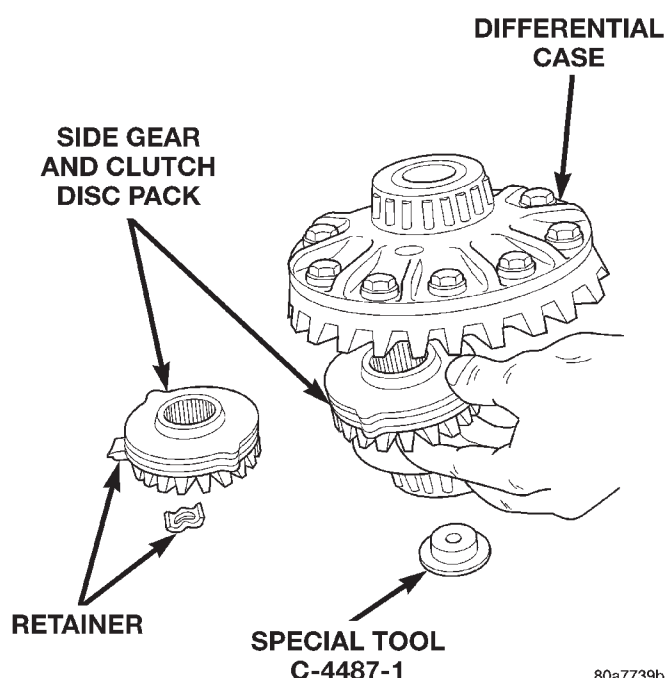

Fig. 53 Side Gear & Clutch Disc Removal
(13) Rotate differential case until the pinion gears can be removed.
(14) Remove pinion gears from differential case.
(15) Remove Forcing Screw C-4487-2, Step Plate C-4487-1, and Threaded Adapter C-4487-3.
(16) Remove top side gear, clutch pack retainer, and clutch pack. Keep plates in correct order during removal (Fig. 53).